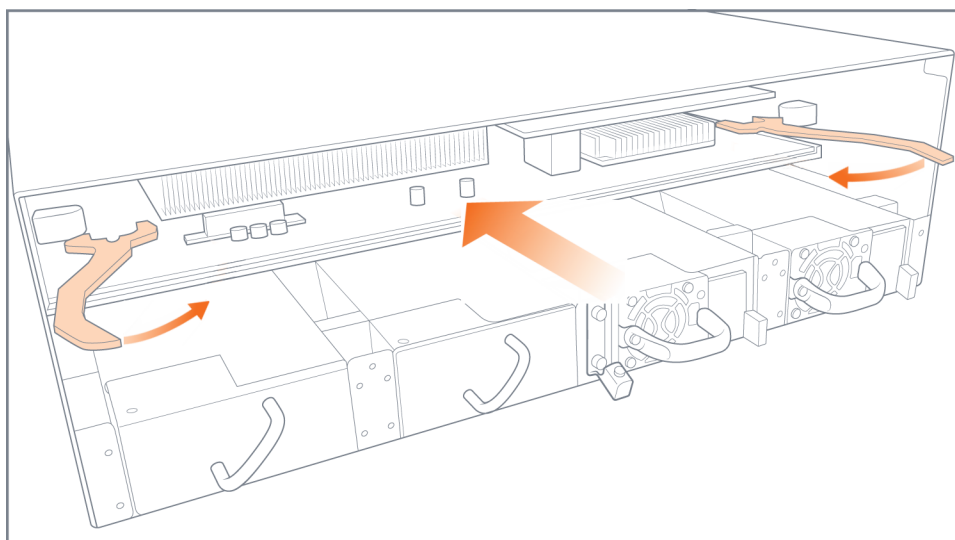

Figure 21 *Control Card Ejector Handles*
2. Swing both ejector handles inward, as shown in Figure 21 Control Card Ejector Handles.